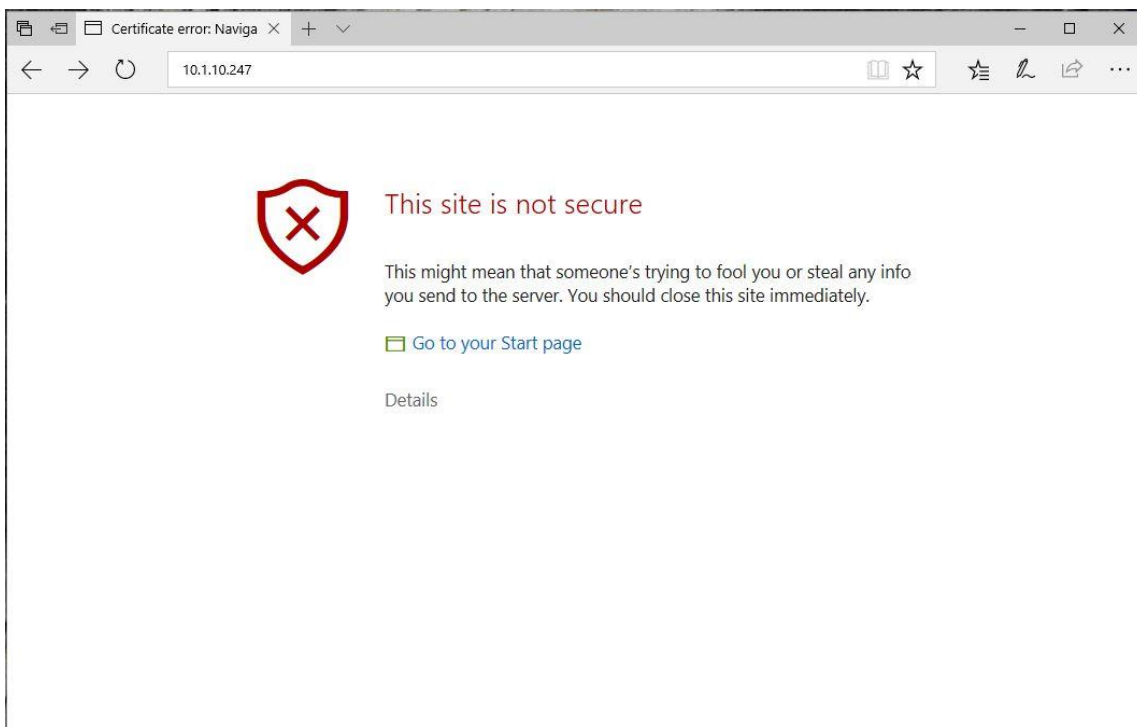

Figure 44: Accessing built-in web server ("This site is not secure").
4. The browser might show you a warning about an invalid web server certificate, as illustrated in Figure 44. Make sure, that you have typed in the correct IP address.